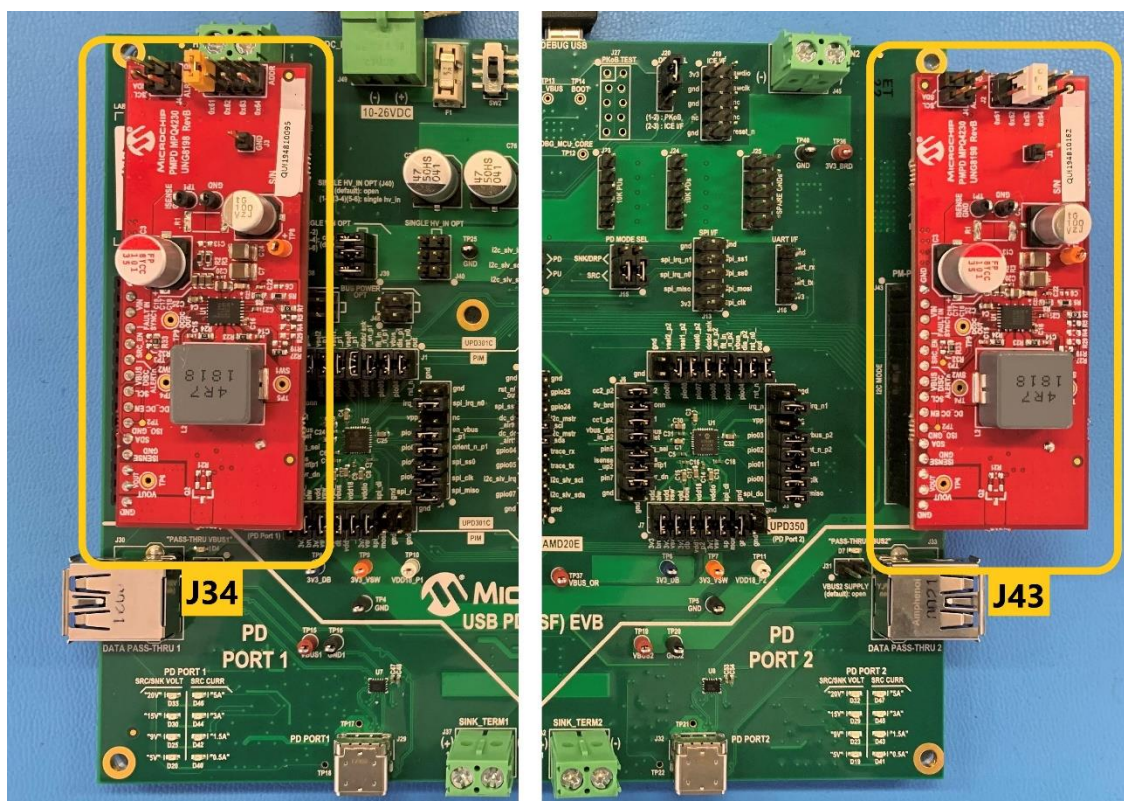

Figure 5.1 PM-PD Installation
1. Connect PM-PD cards to J34 and J43 of the EVB-PSF in correct orientation as shown in Figure 5.1